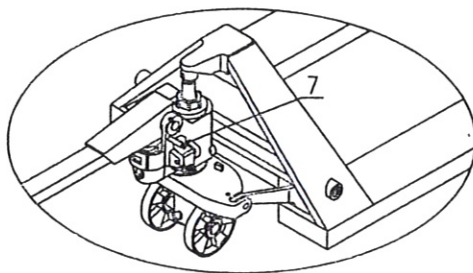

Fig.3
- 3.6 See Fig. 3. Raise Handle to a horizontal position. Pull out Pin (7) and keep it well for future replacement of the handle tube.